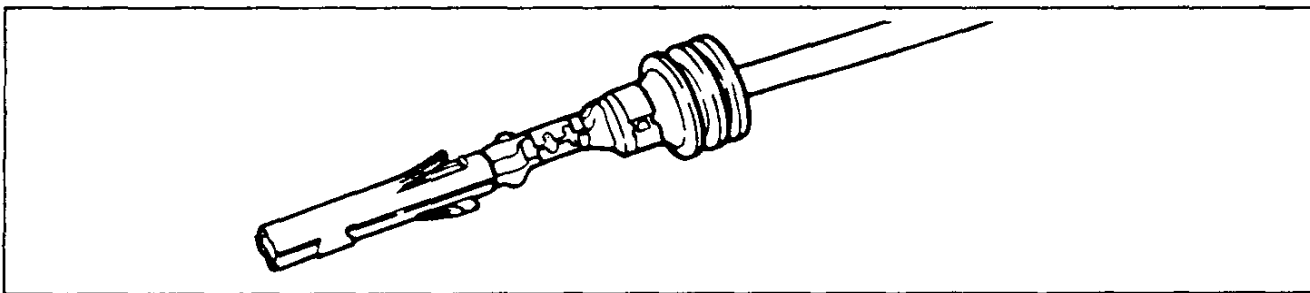

Figure 46
3. Compress the handles of the crimping tool until the ratchet automatically releases and the crimp is complete. A properly crimped Group II terminal end is shown in (Fig. 46).